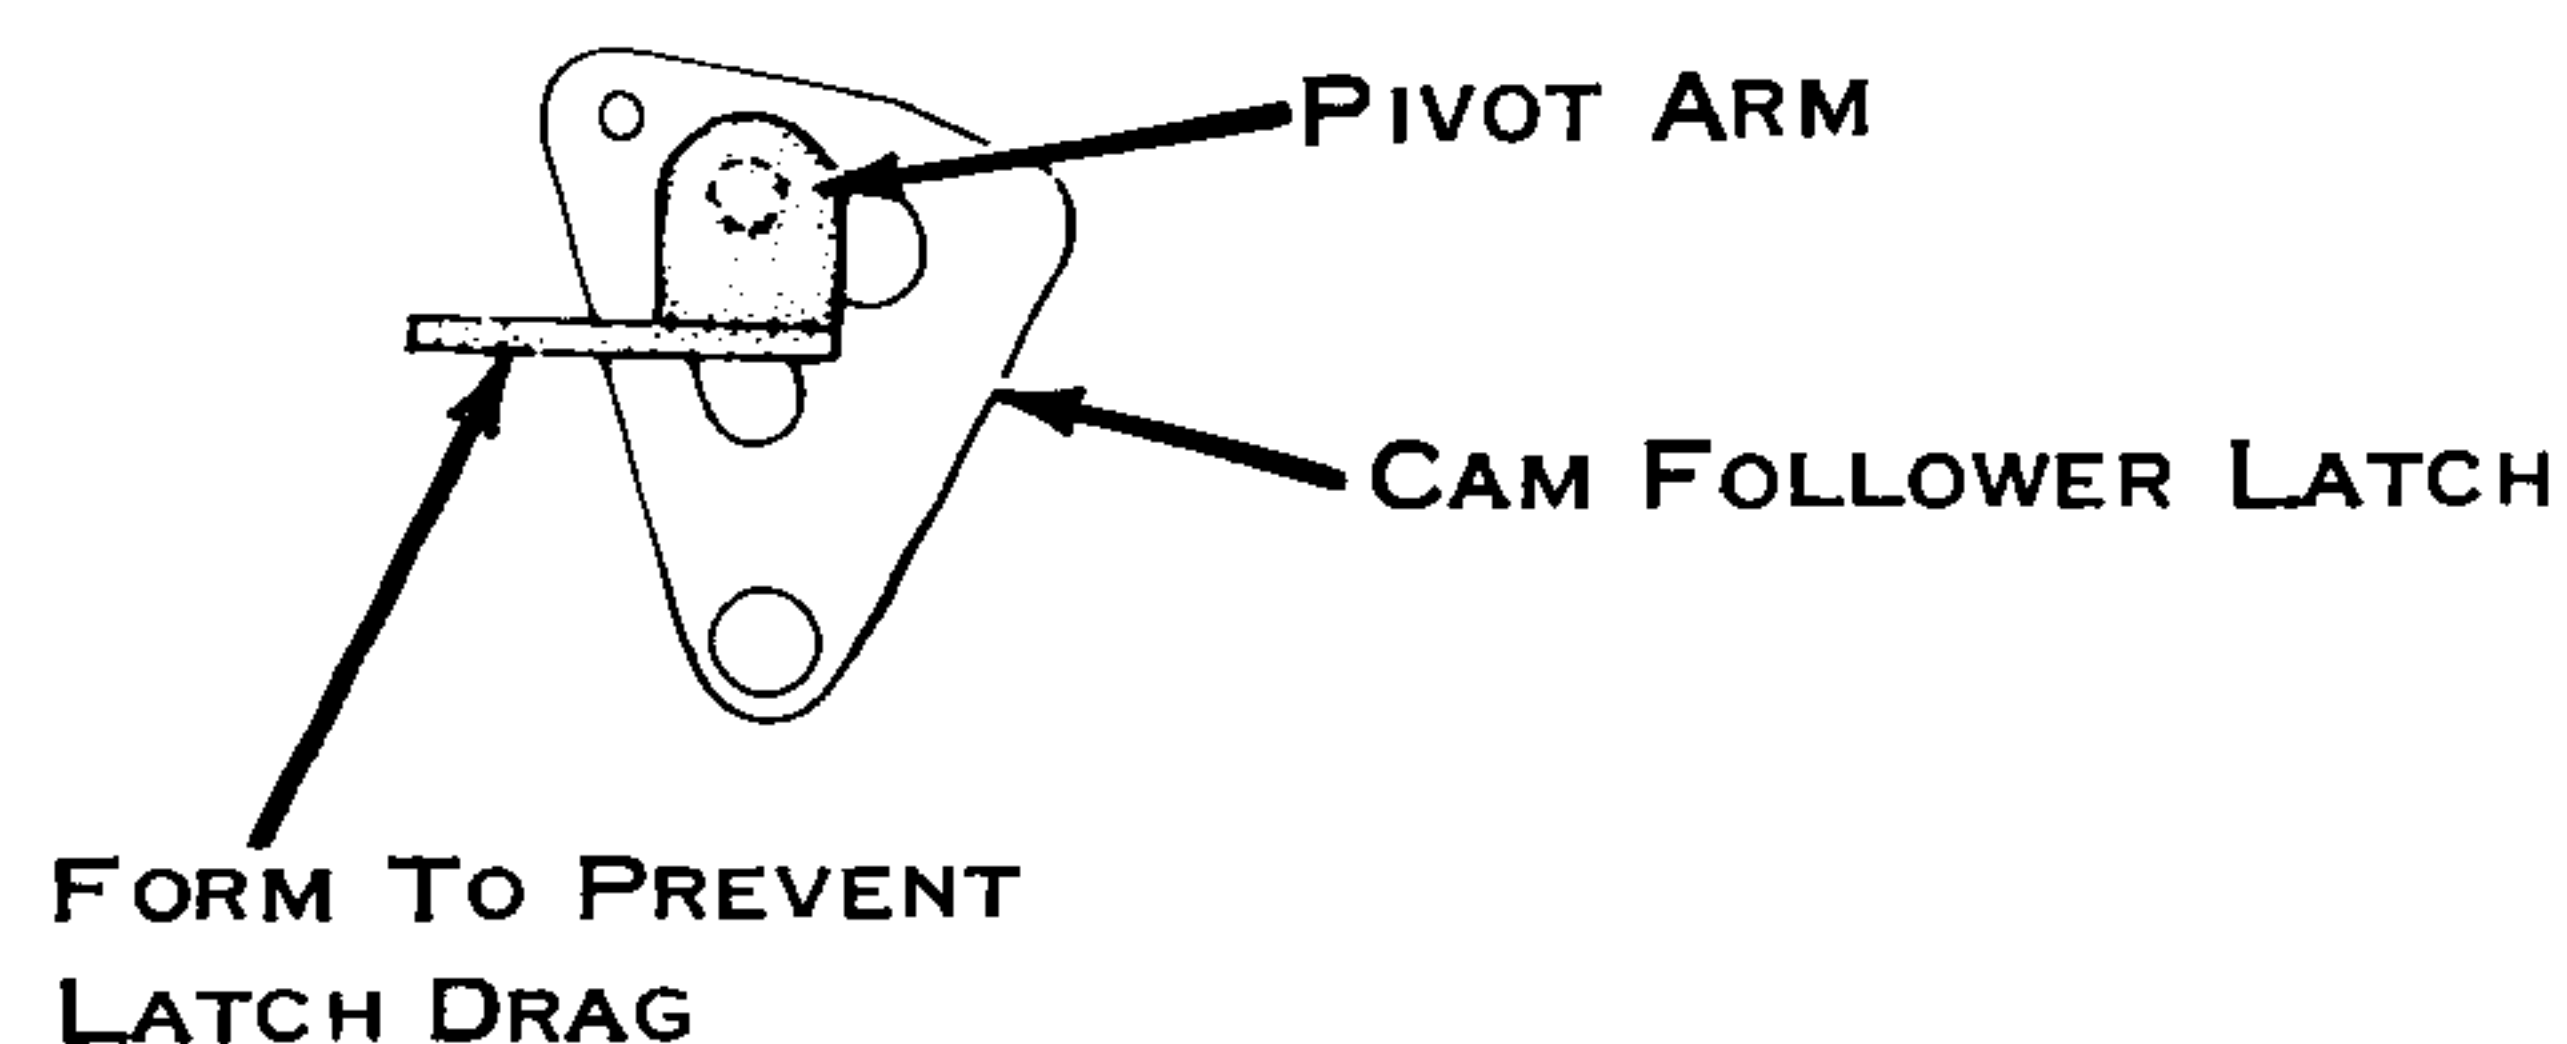

Figure 215. Pivot Arm
4. Pivot Arm (Fig. 215) - With the manual ribbon lift lever in the black position, form the pivot arm extension (up or down) so that the latch does not drag when moved from the latched to the unlatched position.